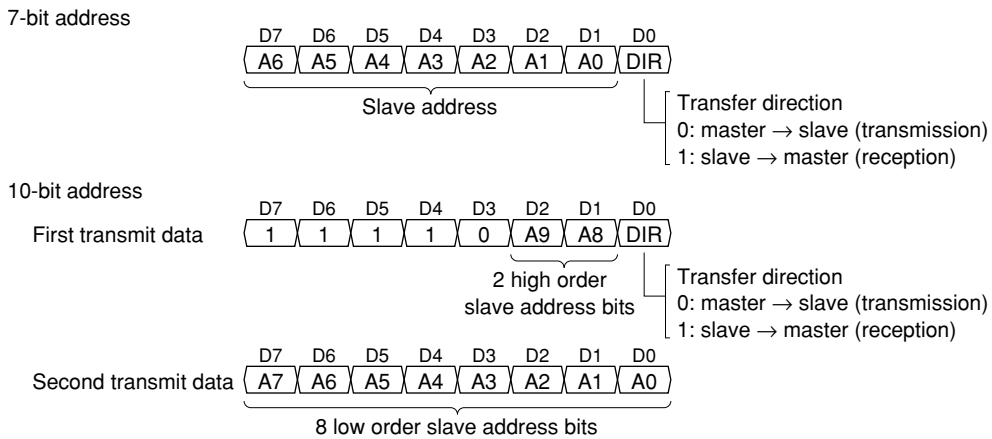

Figure 20.5.2 Transmit Data to Specify Slave Address and Data Direction
1. Set the slave address to RTDT[7:0] (D[7:0]/I2C_DAT register). (First transmit data when 10-bit address is used; see Figure 20.5.2.)
After a START condition has been generated, the I²C master (this module) sends the address of the slave to communicate and a bit to specify data transfer direction. The I²C module supports two slave address sizes: 7-bit slave address and 10-bit slave address. The I²C module sends the slave address bits with the transfer direction bit using the 8-bit transmit/receive data register. So one 7-bit slave address can be sent at a time. A 10-bit address should be sent in two parts with software control. Figure 20.5.2 shows the address data format.